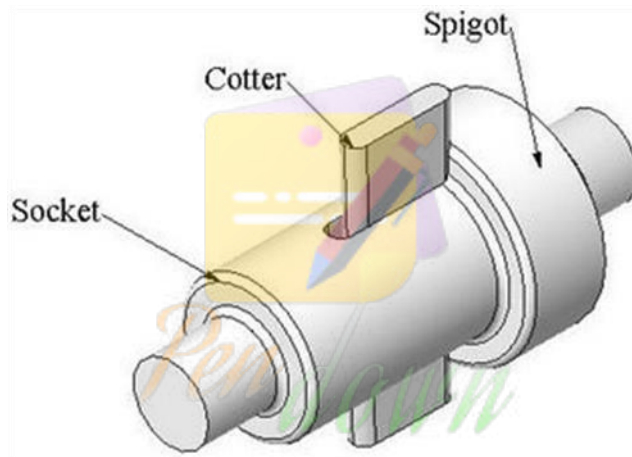

Fig. 1 - Spigot and Socket Joint
**Introduction:** AutoCAD (Version 2018/19) (from Autodesk Inc., USA) is a popularly used general purpose, freely downloadable, easy to use, efficient, Computer Aided Design (CAD) and Drafting software (s/w), from which a variety of soft copy (hence portable, storable and long life) 2D drawings and 3D solid models of automobile and machine components (e.g. Fig. 1 - Spigot and Socket Joint), consumer products, buildings, electrical circuit layout, etc. can be made.